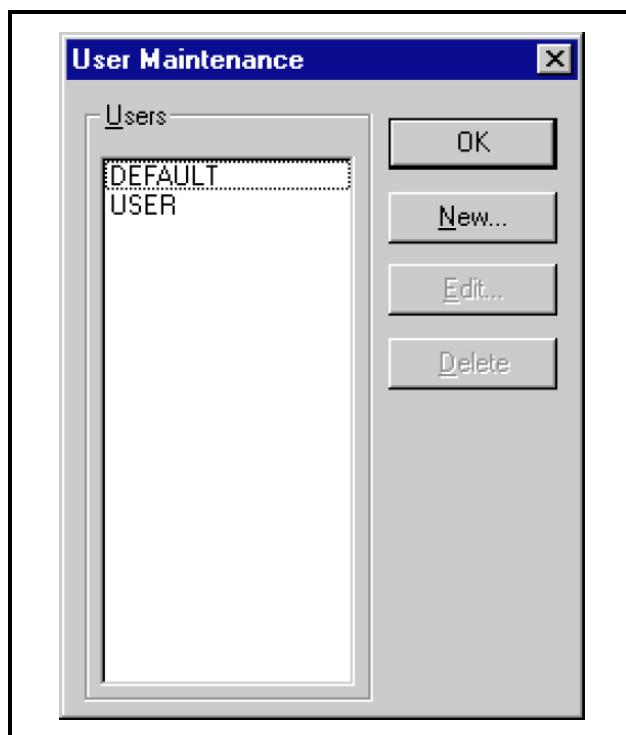

Figure 2-2 - User Maintenance Dialog Box
1. From the System menu in the UltraSite toolbar, select the User Maintenance option. The User Maintenance dialog box (**Figure 2-2**)